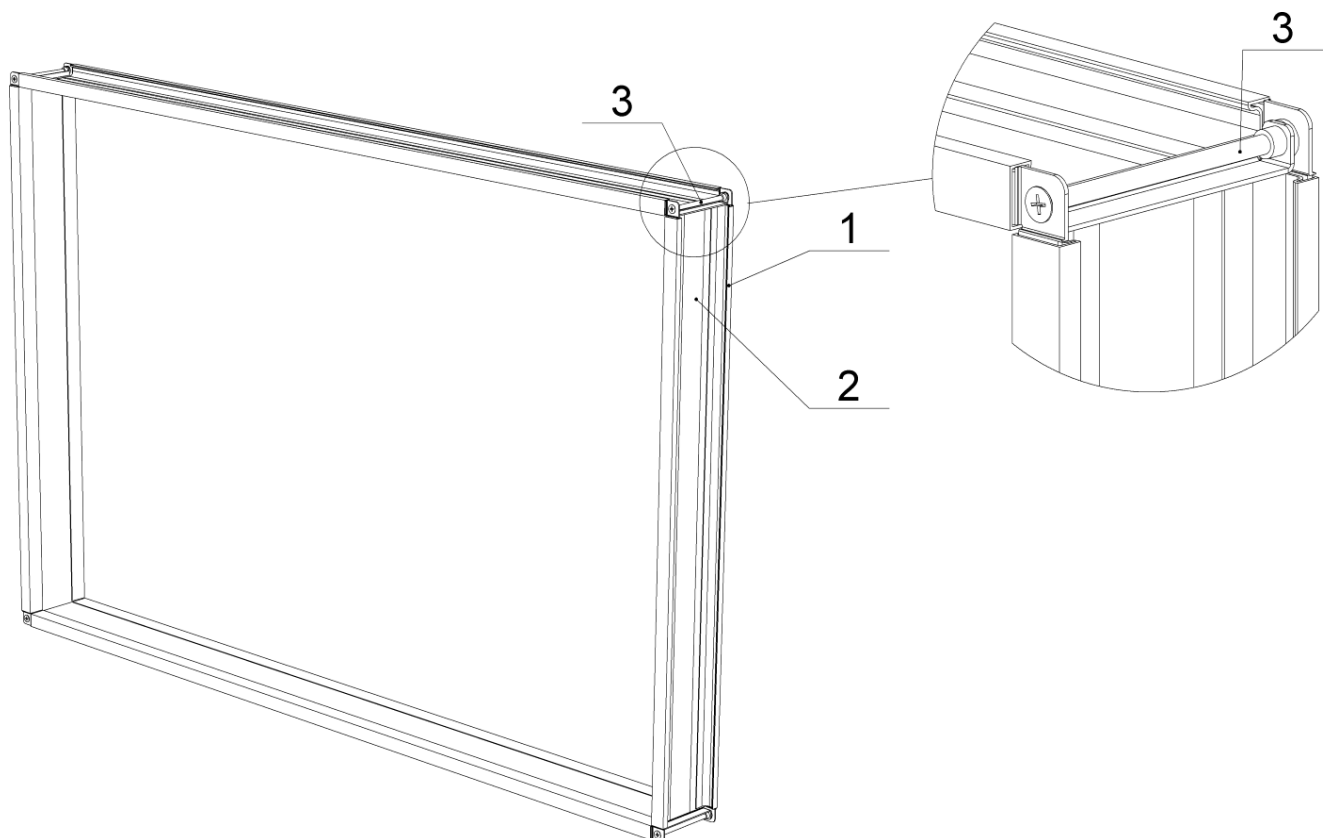

Figure 8.3.1 - Flexible connection.
Flexible connection (Figure 8.3.1) used to connect air handling unit with duct system. It protects duct system from vibration generated by fan. Produced with E type connection (1). Use C type profile to connect flexible connection with damper or duct system and screws to connect with AHU.